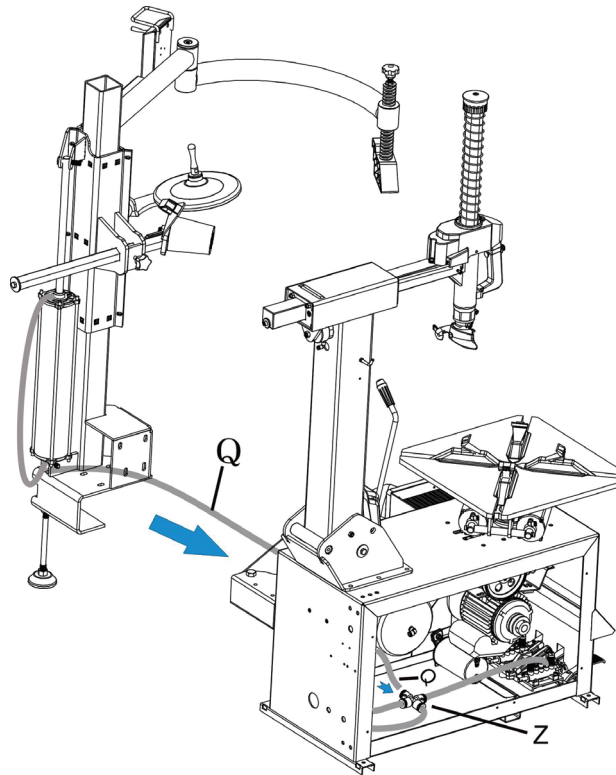

Fig.7
- As Fig. 7, Connect air hose Q to four way connection Z through the rear hole of the body.